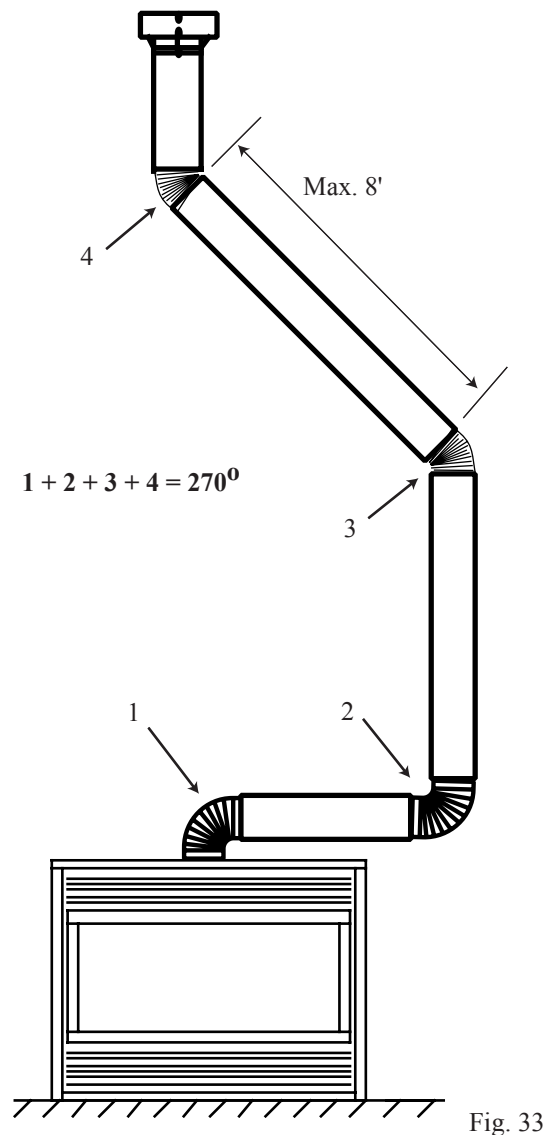

Fig. 33
- Two sets of 45° elbow offsets within these vertical installations. From 0 to a maximum of 8' of vent pipe can be used between elbows. (Fig. 33)